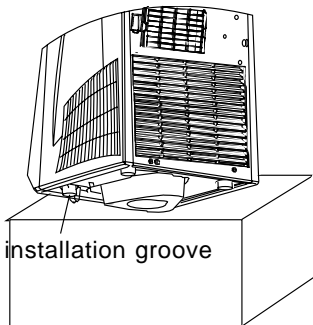

Figure 11-2
3. Screw the truckles in the installation groove, as shown in Figure 11-2, 11-3